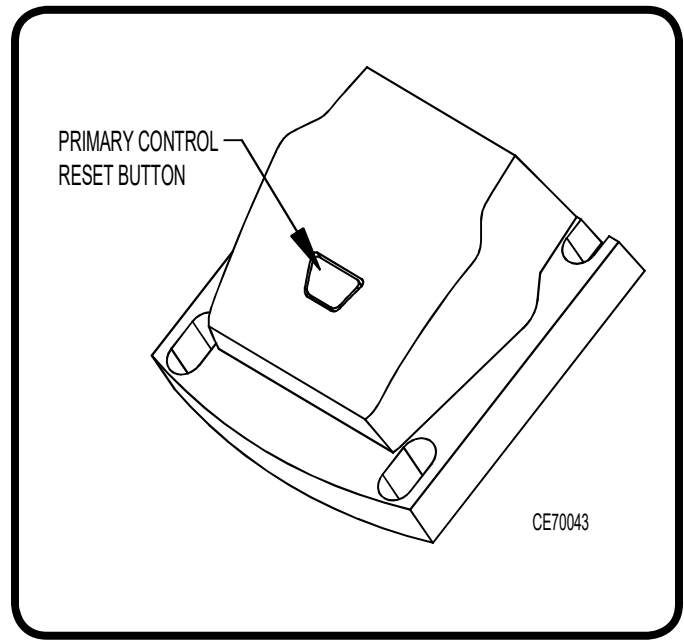

Figure 25: Oil Primary Control Reset Button
- (1) Refer to Figure 25 to locate the oil primary control reset button.
- (2) Do not attempt to reset the burner if there is excess oil in the combustion chamber, vapor has accumulated in the unit, or when the boiler is hot.
- (3) When the combustion chamber has cooled, and there is no vapor or excess oil in the combustion chamber, push the reset button for 3 seconds and release.
- (4) If the burner does not restart contact the Clean Energy Heating Systems service department.